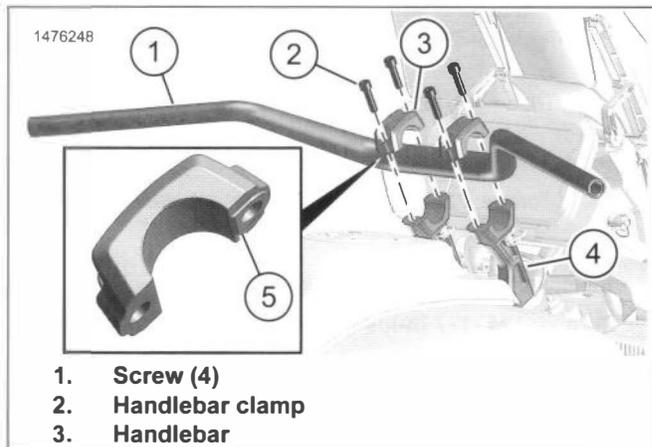

Figure 3-93. Handlebar
1. See Figure 3-93. Remove screws (1).
2. Remove handlebar clamp (2).
3. Remove handlebar (3).
1. See Figure 3-93. Install handlebar (3) centered on riser.
2. Install handlebar clamp (2).
3. Install screws (1). Tighten front screws then rear screws.